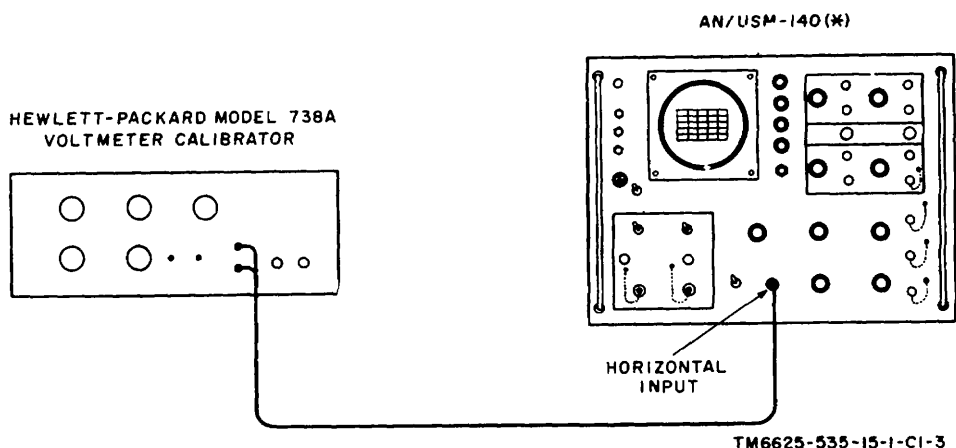

Figure 7-3. Horizontal attenuator test.
a. Connect the equipment as shown in figure 7-3.